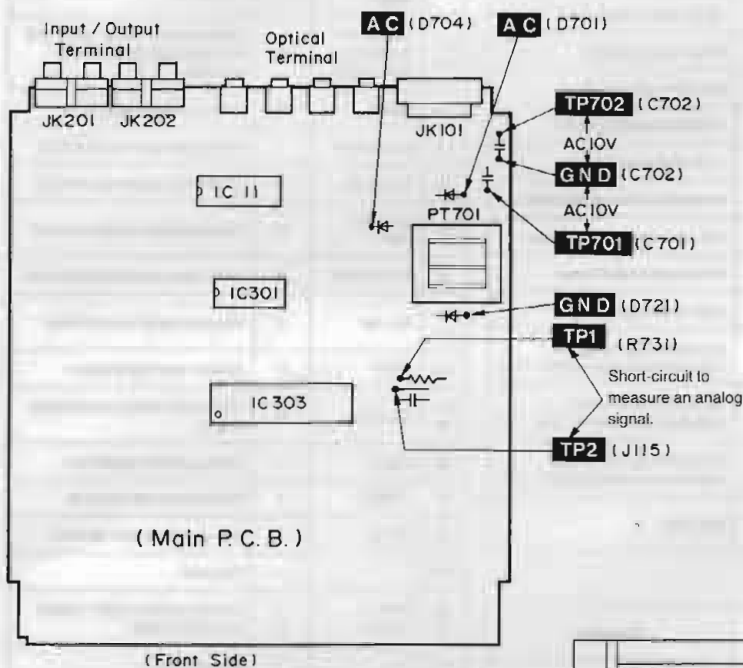
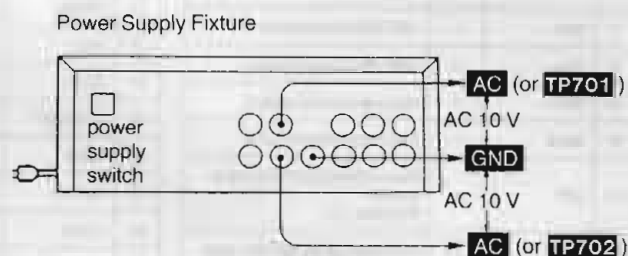

Fig. 1
Fig. 2
• Apply a power supply voltage of AC 10 V to **AC** (D704) (or **TP701**), **AC** (D701) (or **TP702**) and **GND** (D721 or C702). (Shown in Fig. 1 and Fig. 2)
To measure an analog signal of SH-CH700, make connection SH-CH700 with Tuner/CD player SL-CH700, Amplifier SU-CH700, and Cassette Deck RS-CH700. If you wish to measure the analog signal of SL-CH700 singly without connecting to the other units, short-circuit between **TP1** and **TP2** as shown in Fig. 1.